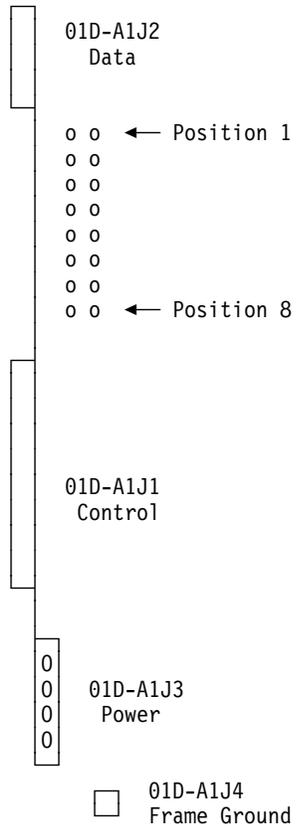
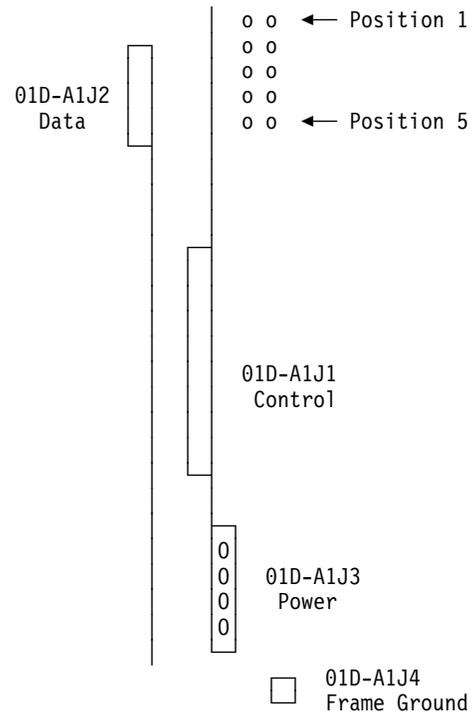

Figure 4-79. HDD Connectors and Jumpers
Figure 4-80. HDD Connectors and Jumpers
8. Ensure that there is a jumper in position 1 of the new HDD. Refer to Figure 4-80 or to Figure 4-79 on page 4-60 according to the HDD type.